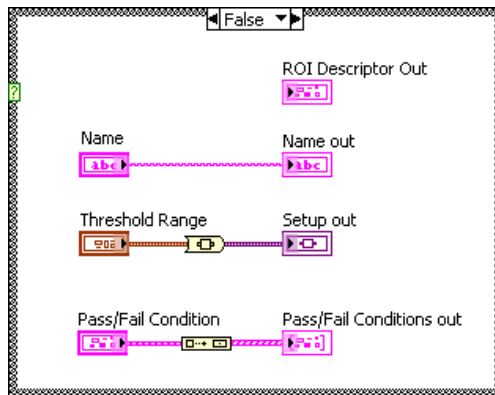

Figure 4-8. Saving the Pass/Fail Condition Control Values
2. Complete the following steps to build the block diagram shown in Figure 4-8: